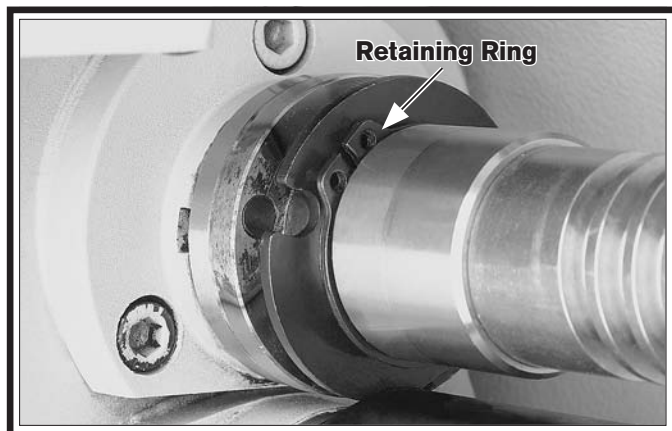

Figure 130. Shear pin access.
5. Move the retaining ring shown in **Figure 130** away from the shroud washer, then move the shroud washer away from the shear pin and against the retaining ring. This will create room for you to remove the shear pin.